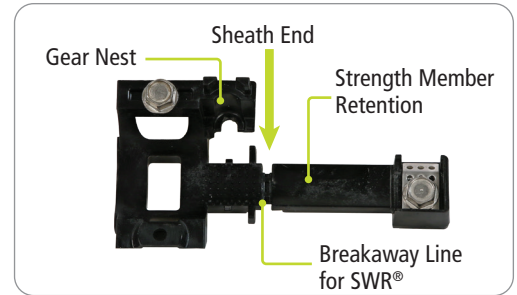

Figure 11
Parts of the CAU (Figure 11 and 12)
1. Remove by hand, the strength member retention from the CAU at the breakaway line by hand. (Figure 11)